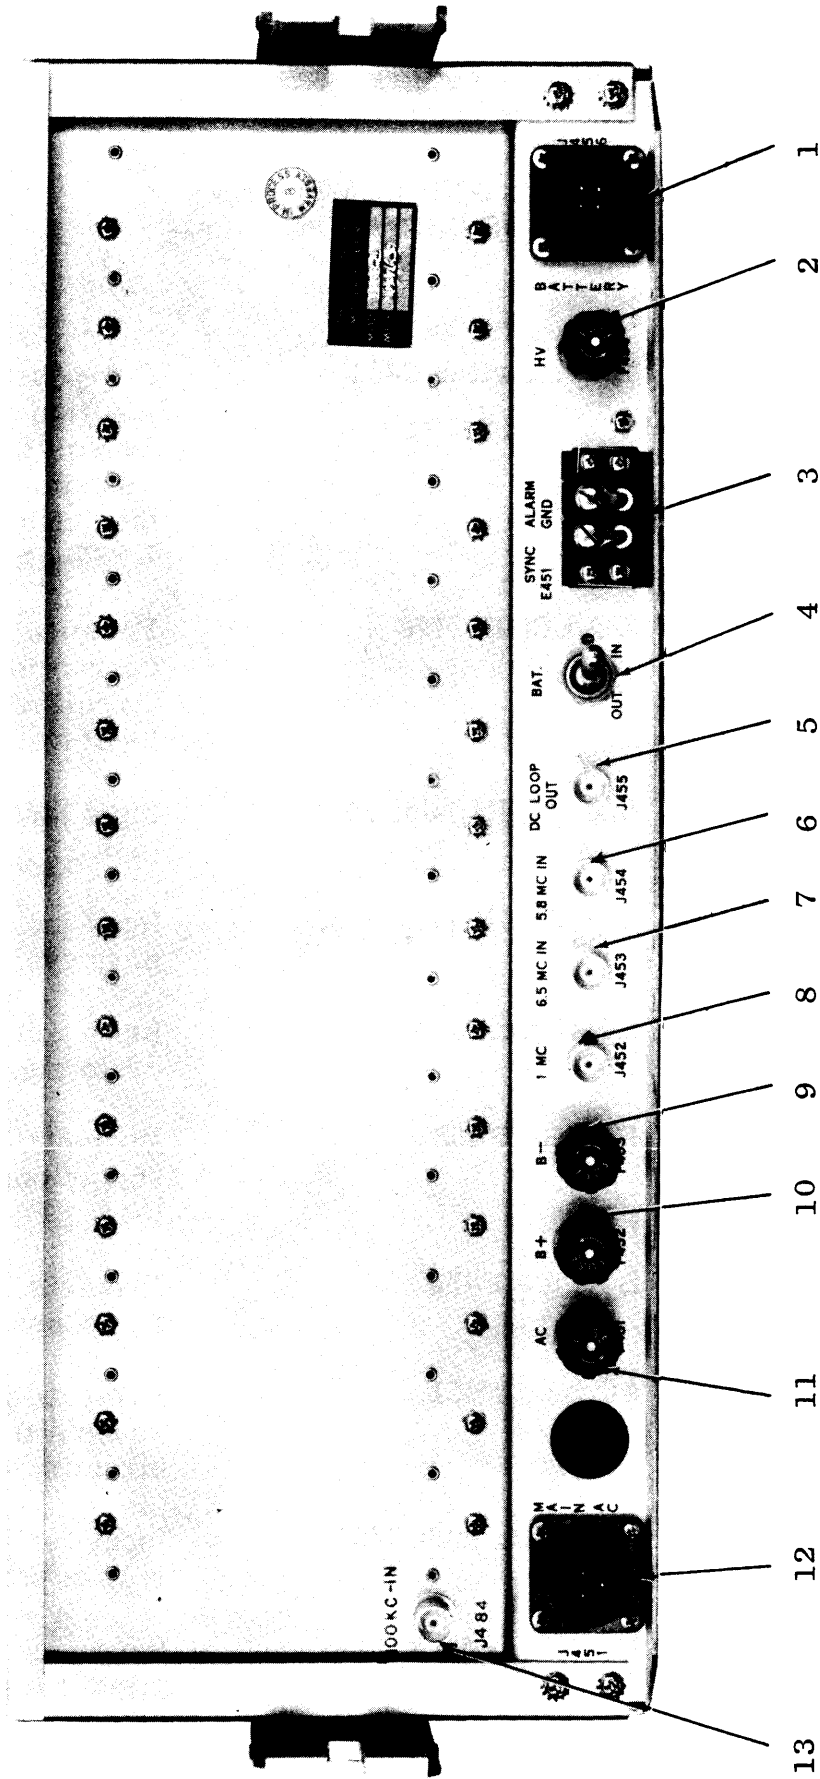

Figure 2-2. LFSB Synthesizer, Rear View
- (1) Set the LFSB chassis slide mechanism in tracks.
- (2) Slide chassis in tracks until rearward release finger engages holes in track.
- (3) Make the necessary cable and electrical connections as described in paragraph b below.
- (4) Press forward release fingers and slide chassis into cabinet; secure front-panel of LFSB to rack with screws.
b. ELECTRICAL. - All external connections are made to the jacks located on the rear panel (see figure 2-2). Table 2-1 lists rear panel controls and jacks and the function of each. External connections to the LFSB are made as follows:
- (1) Check that the POWER switch S452 is set to its off position (down); then connect 115 volt a-c power to the MAIN AC jack J451 pins A and C.
- (2) For signal generator operation, connect external 100 kilocycle and one megacycle signals to the 100 KC IN jack J486 and to the 1 MC IN jack J452, respectively. The sinusoidal output signals are available at the SIGNAL OUT jack J450, located on the front panel, for connection to external equipment.
(3) For synthesizer operation, do the following: